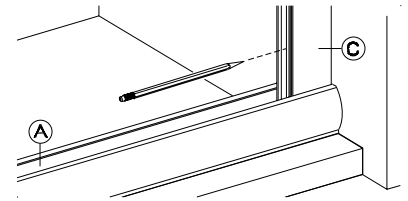

figure 2
3. Place Wall Jamba (C) into ends of Sill (A) and up against shower walls as shown in figure 2. Plumb the Jamba, then pencil mark their installation holes locations on the shower walls (3 per jamb). Remove Wall Jamba. Using a 3/16" bit (designed to drill through material you are working with), drill 1" deep installation holes in locations previously marked. Insert Plastic Screw Anchors (P) into holes.
4. Reposition Wall Jamba (C) as before and secure Jamba to walls using the six(6) 1-1/4" Installation Screws provided (3 per jamb).
5. Measure the wall to wall shower opening at top of Wall Jamba, then trim Header (B) to 1/16" less than measurement obtained. Position Header atop Wall Jamba.